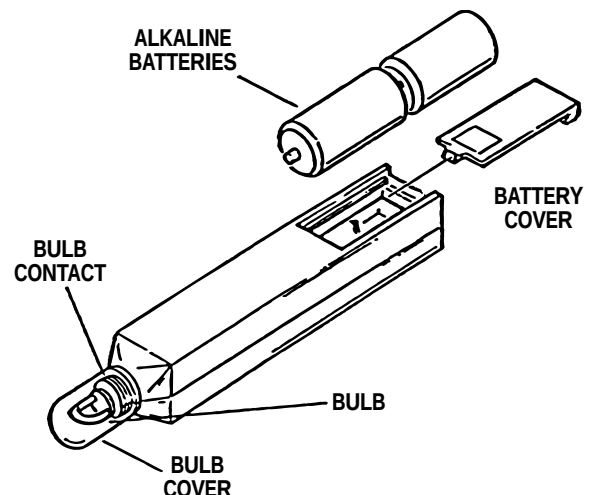

Figure 2-1. HA30AR-WC Positioning Wand
1. Slide the battery cover toward the end of the main case and remove it. See Figure 2-1.
To replace the strobe bulb refer to figure 2-1 or 2-2 and use the following procedure: